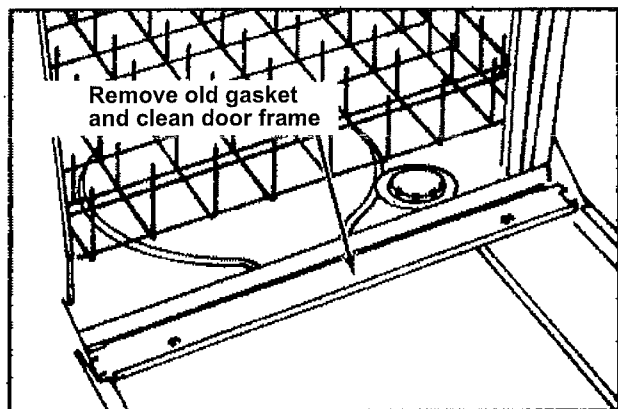

Figure 1
1. Remove old gasket. Clean door frame to remove all old adhesive. See Figure 1.